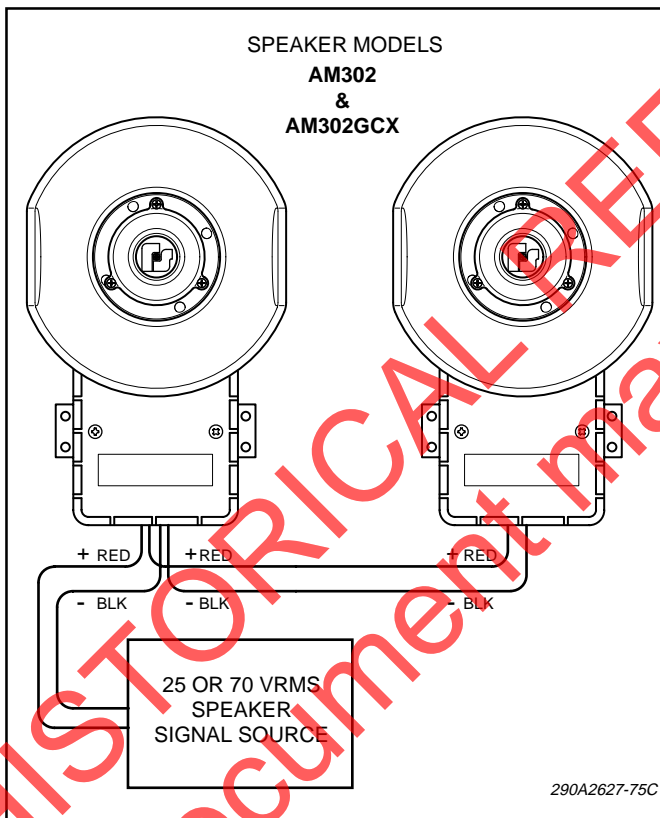

Figure 2. Typical Installation Wiring.
1. See figures 2 and 3. Connect the audio common (-) leads to the speaker's common terminal.
2. Refer to figures 2 and 3. Connect the audio positive (+) leads to the 25V or 70V terminal, depending on the external signal source voltage.